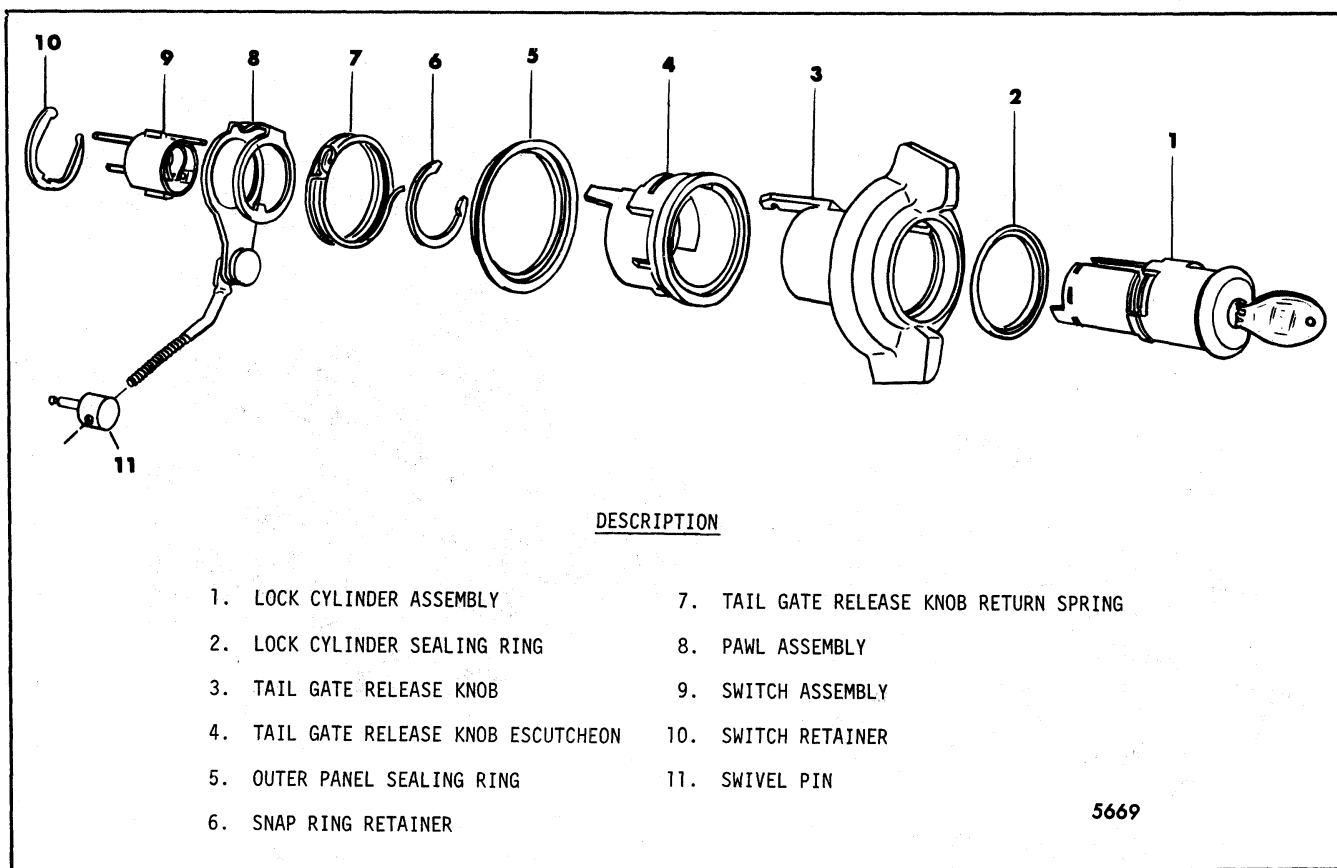

Fig. 7-148-Manual Tailgate Lock and Release Switch Assembly
2. Remove switch retainer (Fig. 7-148).